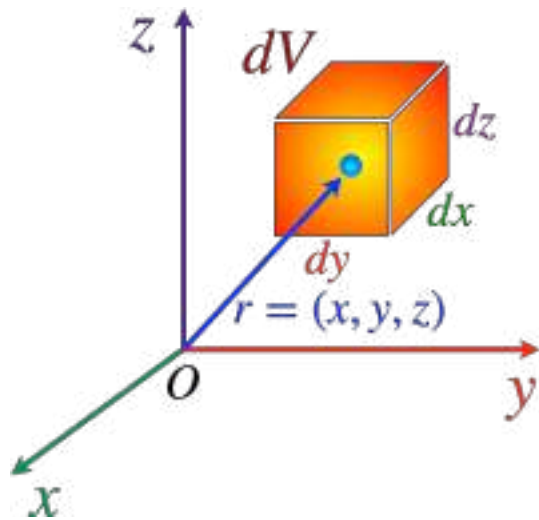

Fig. 6: A particle in a volume
- A probability interpretation of the wave function was given by Max Born. Born's probability interpretation claims that the probability density that a particle will be found is equal to the square of the absolute value of the wave function. Namely, the probability that the particle will be found in the small volume dV shown in Fig.6.